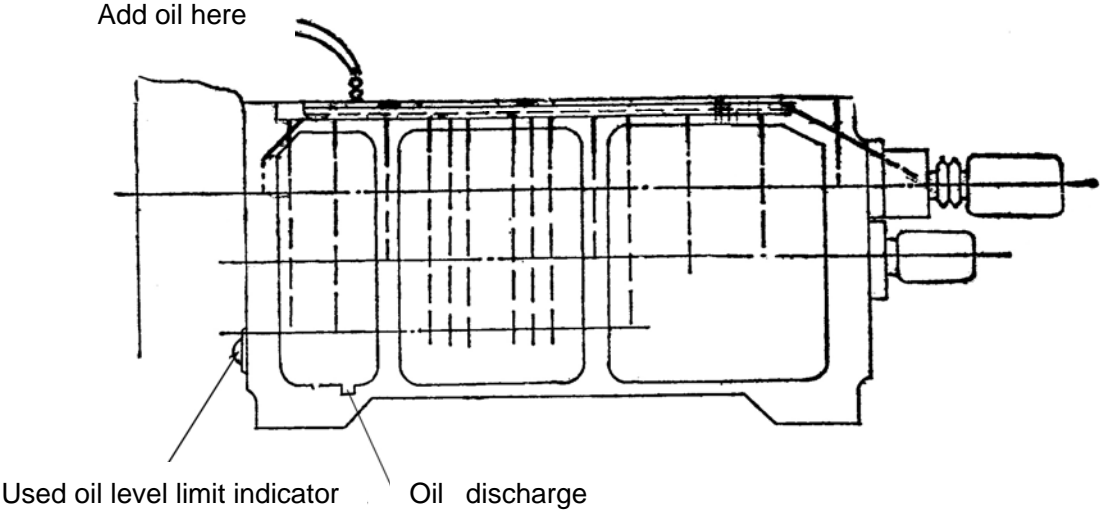

Fig 20 Diagram of feedbox lubrication
7.2 Feedbox: Oil is stored in an oil pool and led through woolen lines for drop lubrication (Fig 20). After a period of working, used oil should be discharged according to the oil indicator.